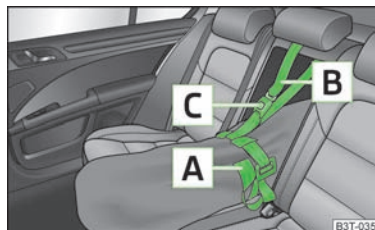

Fig. 101 Securing the through-loading bag
- Tighten the strap **A** on the free end around the skis in front of the bindings » Fig. 101.